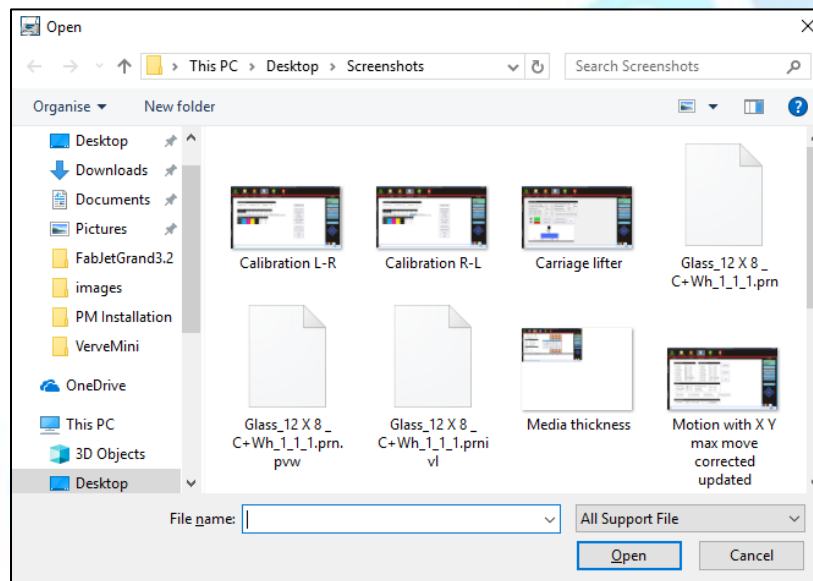

Figure 37: Open Dialog Box
Step 3 After selecting the file, click on the **Open** button (Refer to **Figure 37**). The **Properties** dialog box appears with printing options of the selected image file.